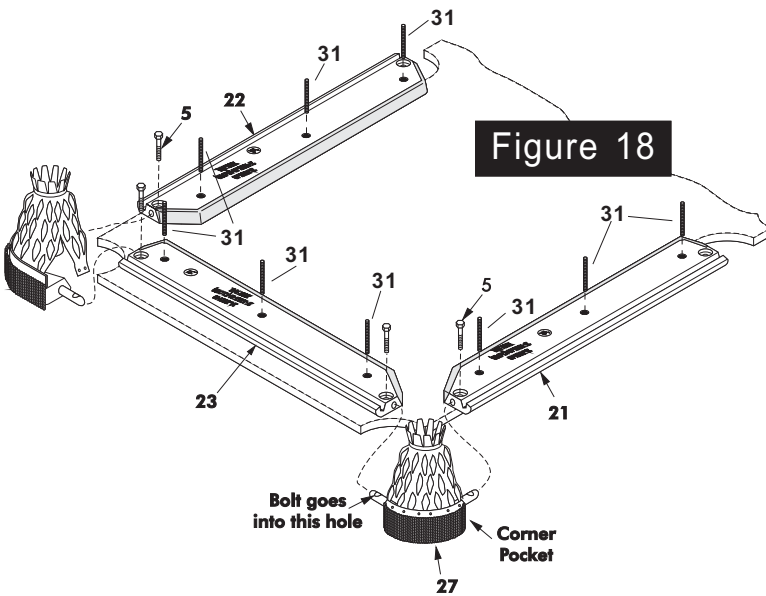

Figure 18
42. Attach end aprons #25(42") to end rails #23(42") using three apron brackets #26 and twelve short screws #5, as shown in Figure 18.
44. Carefully turn an end rail #23, left hand rail #21 and right hand rail #22 face down on the table surface. See Figure 18. Care must be used to avoid scratching rail. Find two corner pockets #27, and four bolts #28. Attach corner pockets to rails by inserting pocket posts into the rail ends. See Figure 18. Pull rail ends snugly against pocket edges before tightening bolts. Repeat procedure using the other end, left and right hand rail.
Install studs #31, 3 pcs per each rail as per **Figure 18** This studs only require a snug fit.